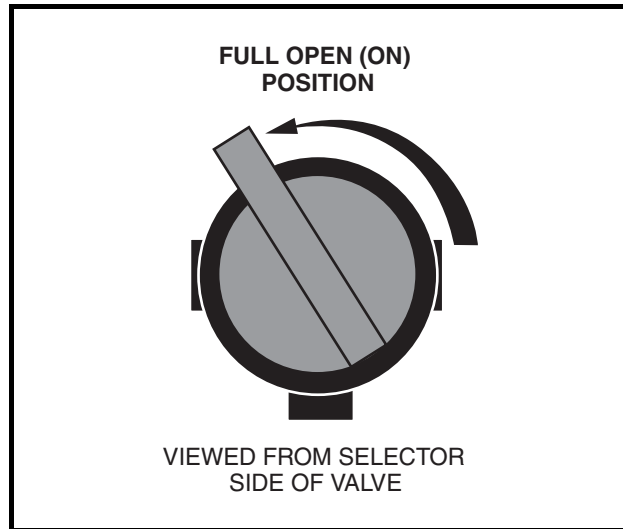
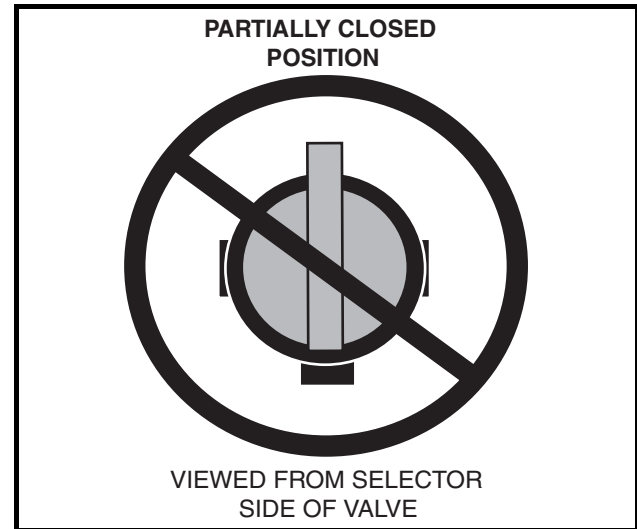

Figure 14-13 Open Fuel Shut-off Valve Position
Figure 14-14 Incorrect Fuel Shut-off Valve Position
6. Turn the fuel shut-off valve on top of the fuel tank to the open position (**Figure 14-13, Page 14-22**).
9. Check to be sure the fuel shut-off valve on top of the fuel tank is in the open (ON) position (**Figure 14-13, Page 14-22**).
The valve's open position differs from standard valve configurations. For the valve to be fully open, it must be turned approximately 120° from the closed (OFF) position (until it cannot be turned any further) (Figure 14-13, Page 14-22). If the valve becomes partially closed (Figure 14-14, Page 14-22), the engine will not run properly due to fuel starvation.